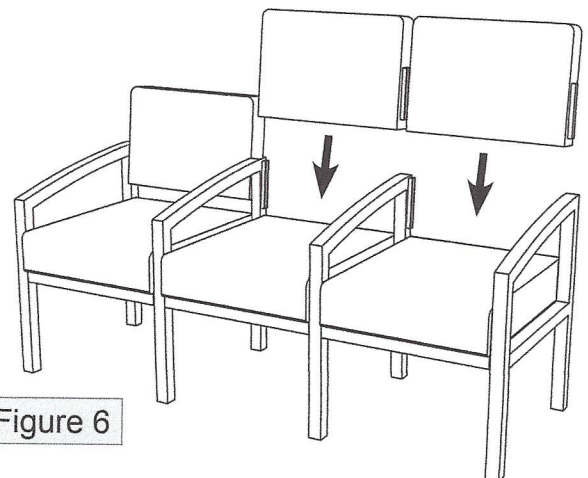

Figure 6
6. Slide back cushions between the leg frames as shown in figure 6. Use care that the wedges on both sides are properly aligned and connected simultaneously. Do not attempt to insert one side ahead of the other. **Keep these wedge connections loose until all back cushions are in place.**